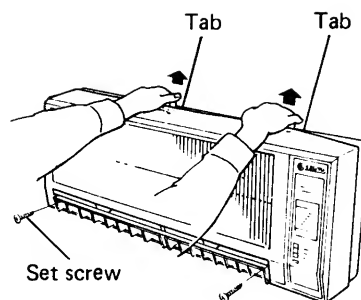

Fig. 13
- Pull up the casing by hand, press down on tabs on top, then withdraw the casing by pulling it back straight. Fig. 13